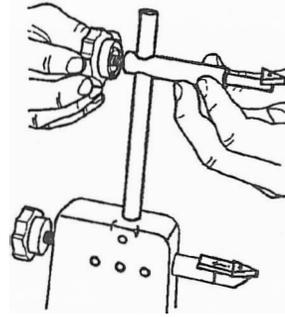

Fig. B-1
1. Loosen the follower adjusting knob (44), and remove the follower support (46), as seen in Fig. B-1.